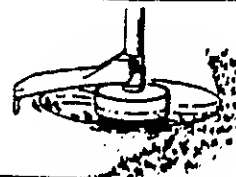

Figure 14
3. **MOWING** - Figure 14 . Your trimmer is ideal for mowing in places conventional lawn mowers can not reach. In the mowing position, keep the line parallel to the ground. Avoid pressing the head into the ground as this can scalp the ground and damage the tool.